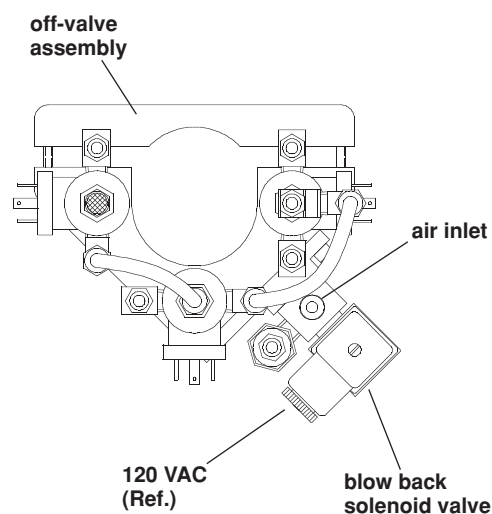

Figure 4-7 Coolant Purging Setup
2. At off-valve assembly (Fig. 4-7) connect 1/4-inch air hose to air inlet.